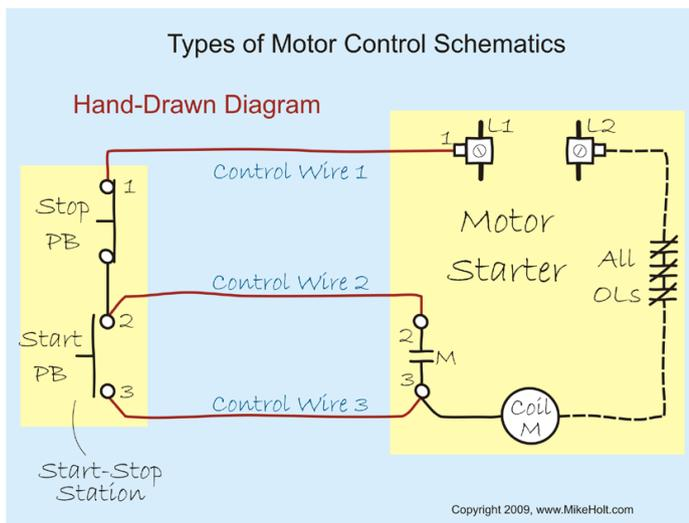

Figure 1-9
- Often a hand-drawn diagram of a control circuit constructed in the field helps in understanding how a circuit functions and how to make the necessary connections, especially during the learning process. **Figure 1-9** shows the hand-drawn version of the 3-wire start-stop control circuit shown in **Figure 1-3**. Notice that the stop pushbutton is in series with coil M, and that the start pushbutton is in parallel with M contacts 2-3. The entire control circuit in this example is in parallel between line 1 and line 2. These basic relationships can be found in many control circuits.